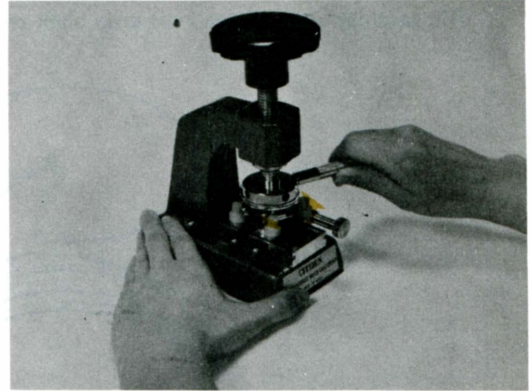

Fig. 3
- (1) Remove the case back.
- Use the Citizen Multi-Purpose Watchcase Opener (Fig. 3).